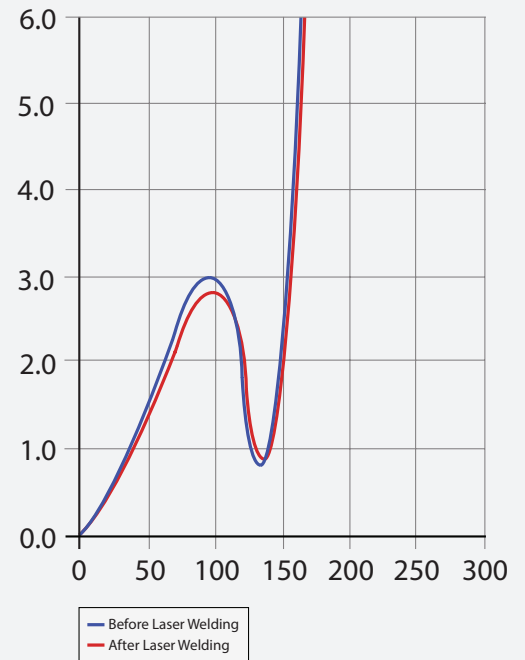

Figure 4
- **Preserves crisp switch feel.** The laser welded nylon film has only a negligible effect on actuation force and click ratio. To take one example, the click ratio changed from 70.15% without the laser welded film to 68.28% with it—for a minor two percent change (See Figure 4).